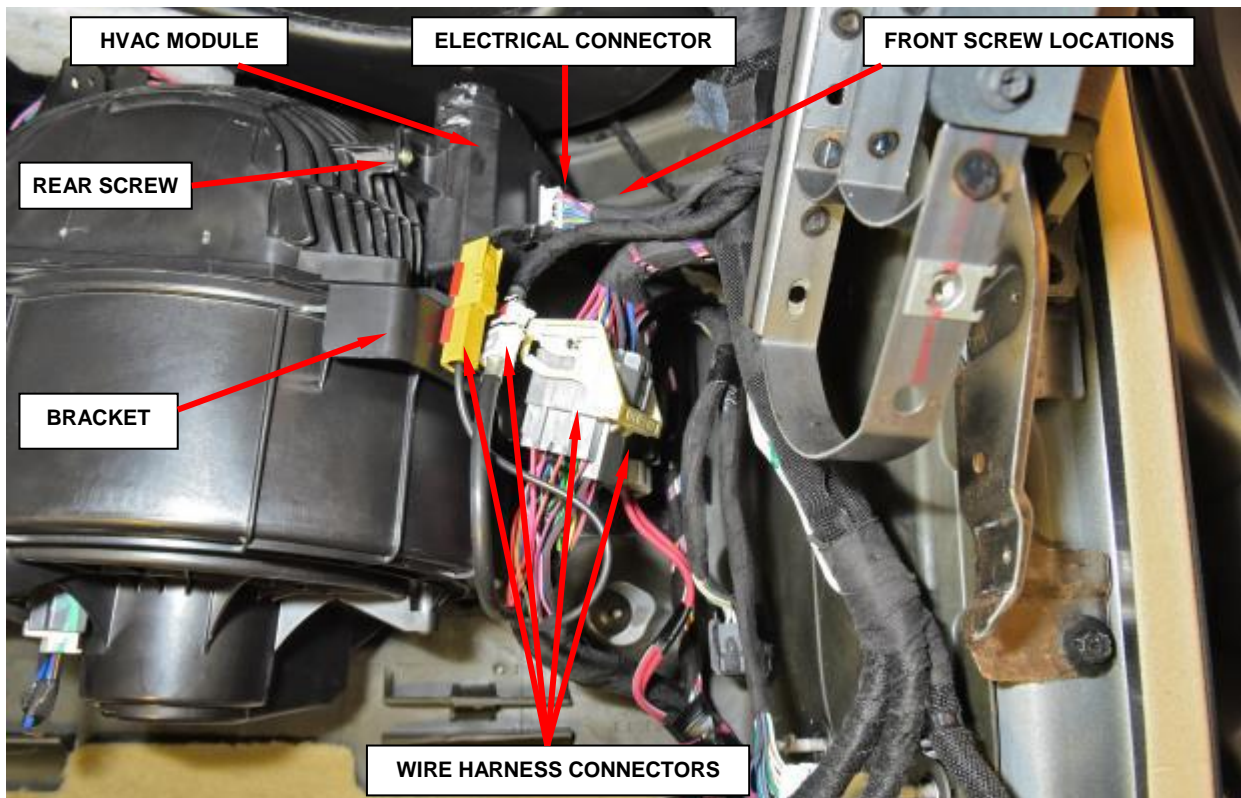

Figure 33 – HVAC Module
7. Disconnect the electrical connector from the HVAC module, located on the air inlet housing (Figure 33).
8. Release the wire harness connectors from the bracket (Figure 33).
9. Loosen the two screws that secure the front of the HVAC module to the air inlet housing (Figure 33).
10. Remove the one screw that secures the rear of the HVAC module to the air inlet housing (Figure 33).